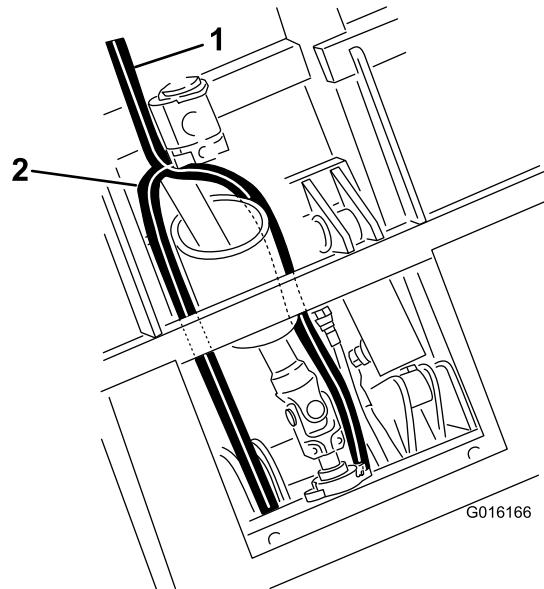

Figure 46
- Route the pressure hose under the lift cylinder and between the cylinder mounting brackets to the valve (Figure 46).
- Route the tank hose along side the PTO shaft to the valve (Figure 46).